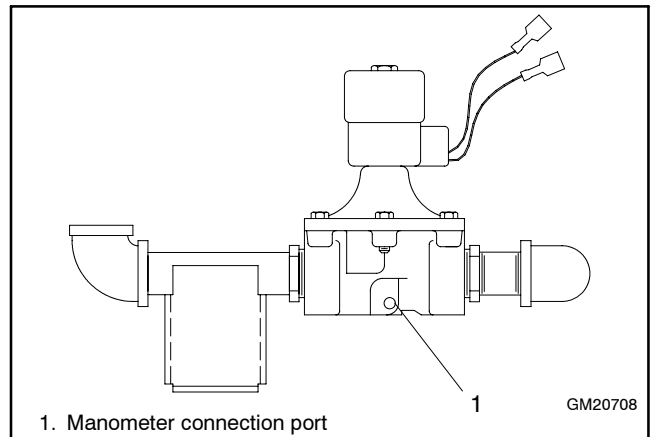

Figure 7-43 Solenoid Fuel Valve Manometer Port
- a. Remove the 1/8 NPT pipe plug from the solenoid fuel valve located at the generator set fuel inlet connection. See Figure 7-43.